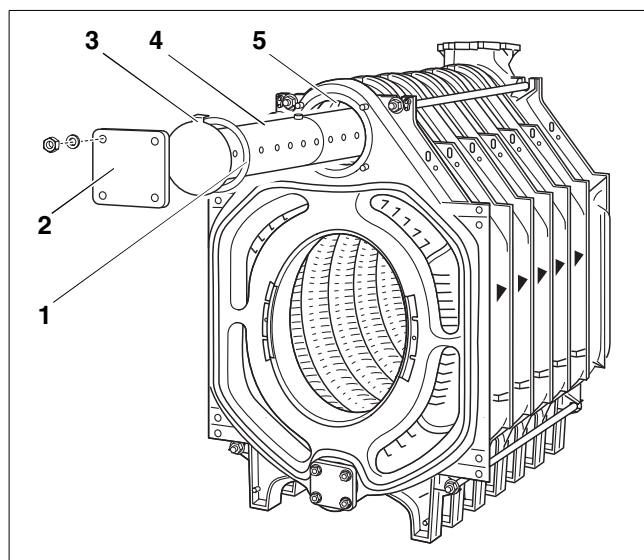

Fig. 21 Assembly – Fitting sparge pipe
The sparge pipe (Fig. 21, **ref. 4**) for boilers with 10 – 12 sections is in two parts.
- Fit the gasket (Fig. 21, **ref. 1**) onto the sparge pipe.
- Seal it with the blind flange (Fig. 21, **ref. 2**).
The lug (Fig. 21, **ref. 3**) on the plate at the end of the sparge pipe must fit into the recess in the top nipple port (Fig. 21, **ref. 5**). This locates the sparge pipe so that the outlet openings in it are at the correct angle and this in turn ensures that water is properly distributed in the vicinity of the top nipple ports.